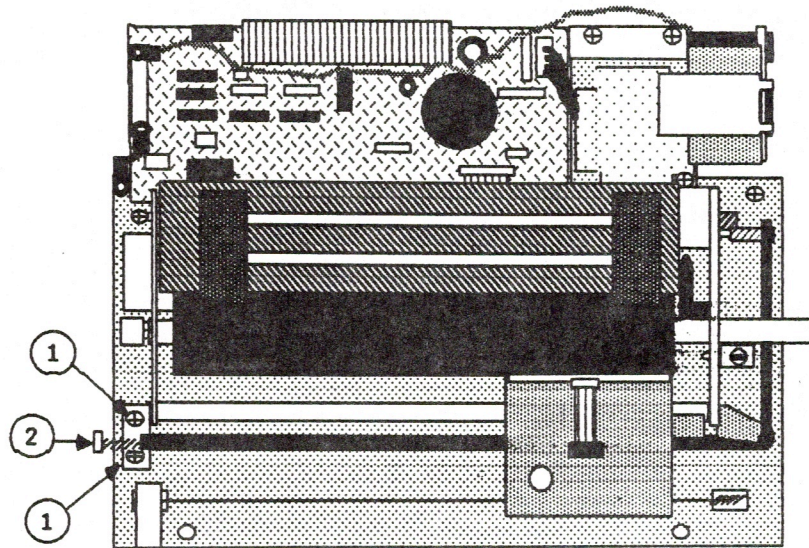

Figure 3
2. If you use a very thin 5.5 mm wrench, you may be able to reach the drive belt adjustment screw (Figure 3, #2) by removing the case cover only. Otherwise, remove the printer assembly from the case. (Refer to **Section 2, Take-Apart**, for instructions.)
- a) Loosen the two belt pulley screws (Figure 3, #1).
- b) Turn the drive belt adjustment screw (Figure 3, #2) clockwise to tighten, or counterclockwise to loosen the belt.